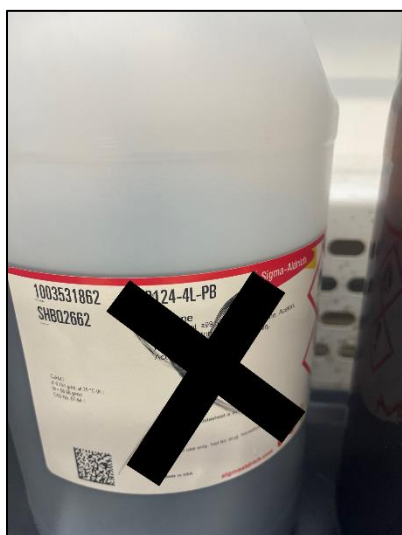

Figure 1
10. Remove or cross-out original label(s) (Figure 1).